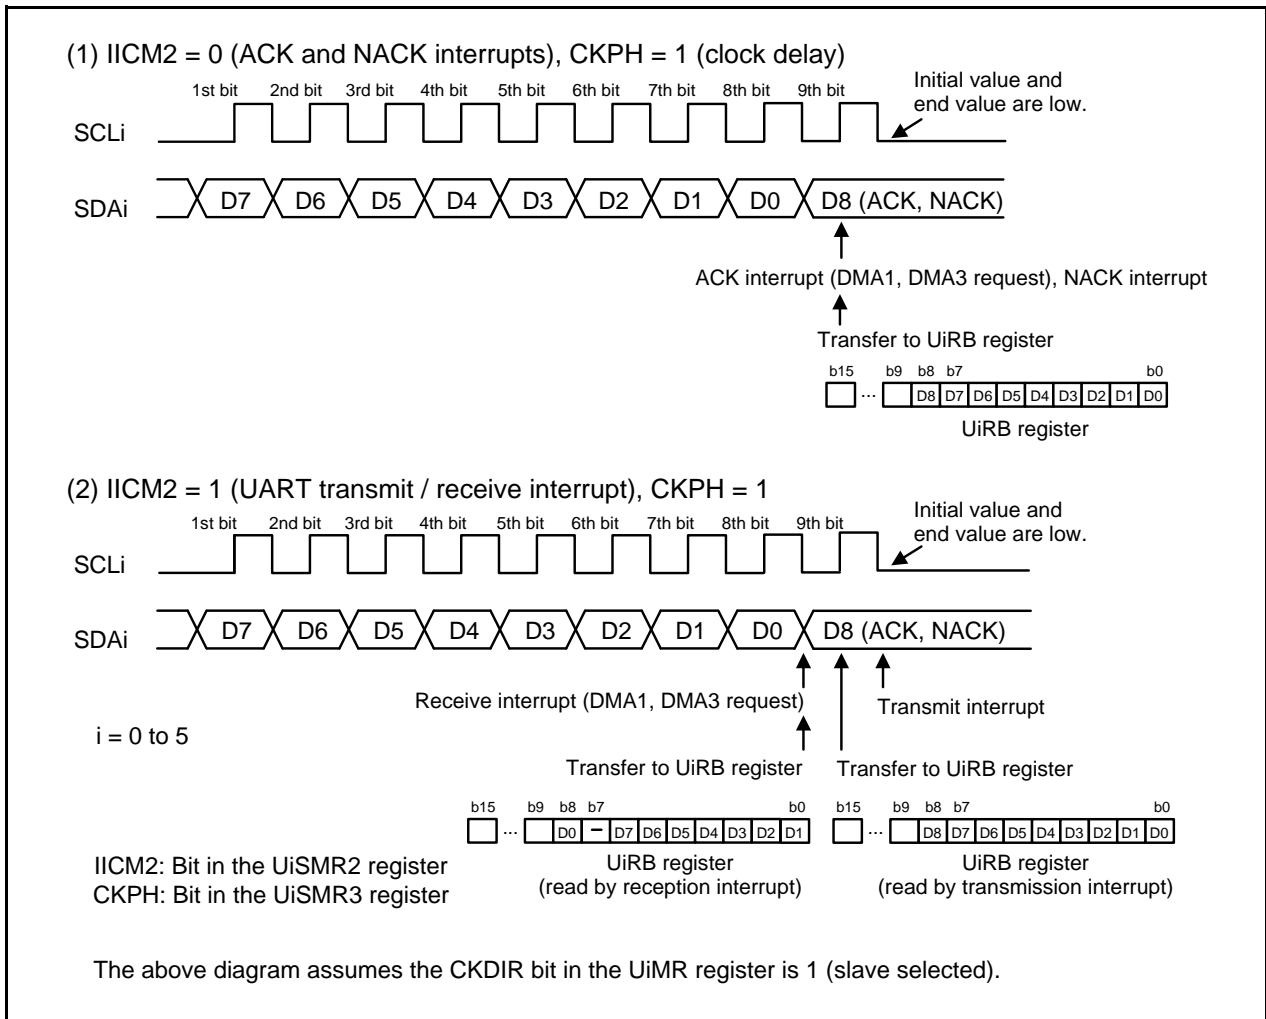

Figure 22.20 Transfer to UiRB Register and Interrupt Timing
In I2C mode, functions and timings vary depending on the IICM2 bit setting in the UiSMR2 register. Figure 22.20 shows Transfer to UiRB Register and Interrupt Timing. See Figure 22.20 for the timing of transferring data to the UiRB register, the bit position of the data stored in the UiRB register, types of interrupts, interrupt requests, and DMA request generation timing.
- See Figure 22.20 "Transfer to UiRB Register and Interrupt Timing".
Data transmission/reception in I2C mode uses the transmit/receive clock as shown in Figure 22.20 "Transfer to UiRB Register and Interrupt Timing". The clock speed increase makes it difficult to secure the required time for ACK generation and data transmit procedure. The I2C mode supports a function of wait-state insertion to secure this required time and a function of clock synchronization with a wait-state inserted by other devices.
Read the received data from the UiRB register. When the clock delay function is used, data transfer to the UiRB register occurs twice and each UiRB register value is different. Refer to Figure 22.20 “Transfer to UiRB Register and Interrupt Timing” for details.